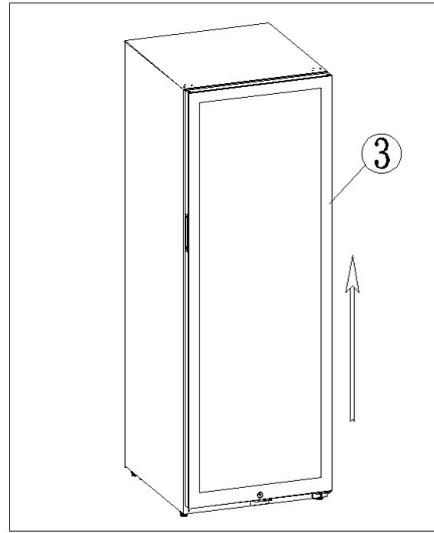

图 2
- 1) Remove the 3 screws ② securing the upper door hinge ① with an external hexagon wrench. see picture 1
- 2) Then hold the door body ③ with both hands, slowly and vertically upward, and remove the door body. Carefully place on a protective cushion. see Figure 2